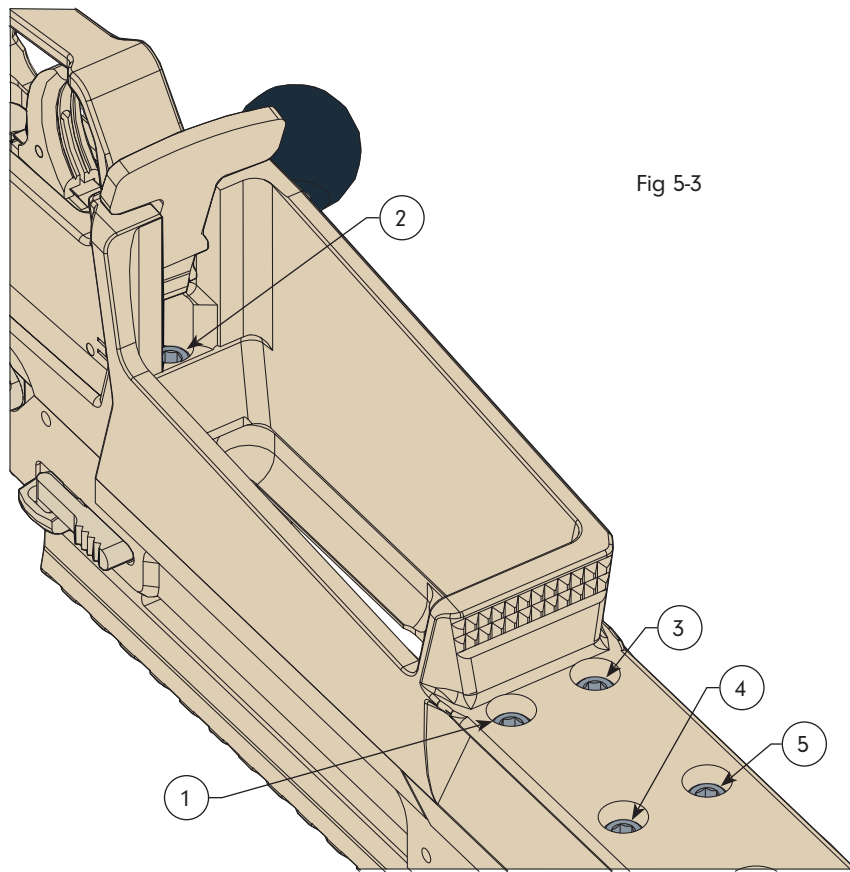

Fig 5-3
- Using a 4 mm hex wrench or 4 mm extended ball-end hex wrench, tighten each action screw in the sequence shown in Fig 5-3 to 4.0 Nm.